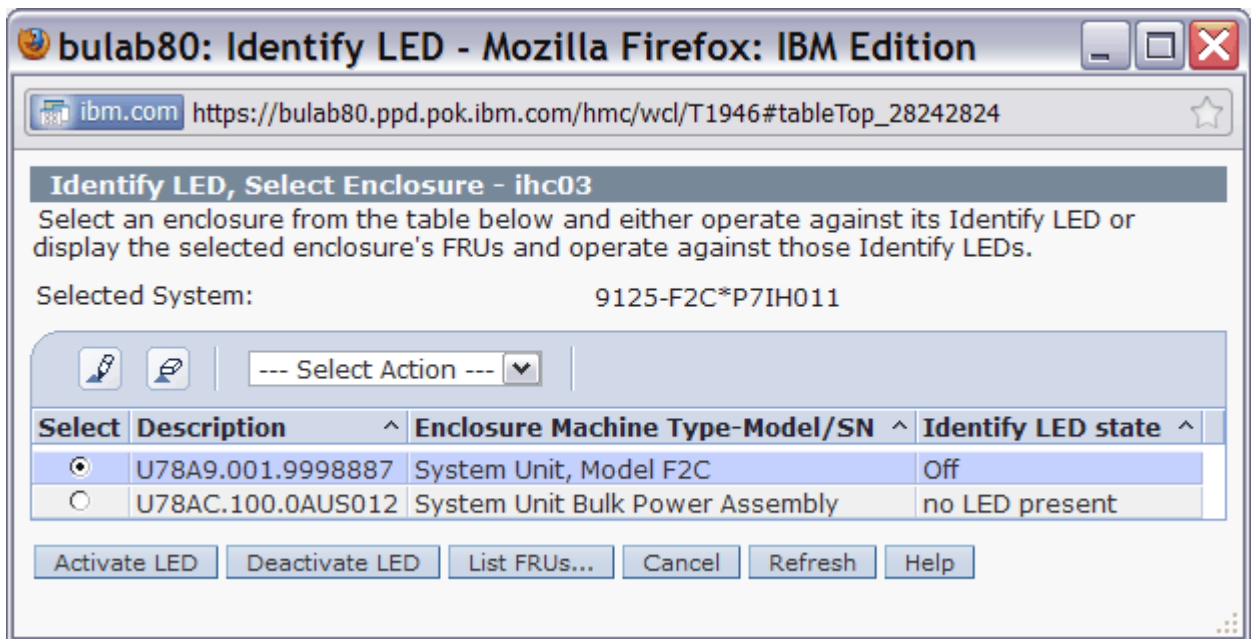

Figure 4 System Unit, Model F2C Selection
STEP 5 In the window titled **Identify LED**, *select* **System Unit, Model F2C** then *click* the **List FRUs...** button. See Figure 4.